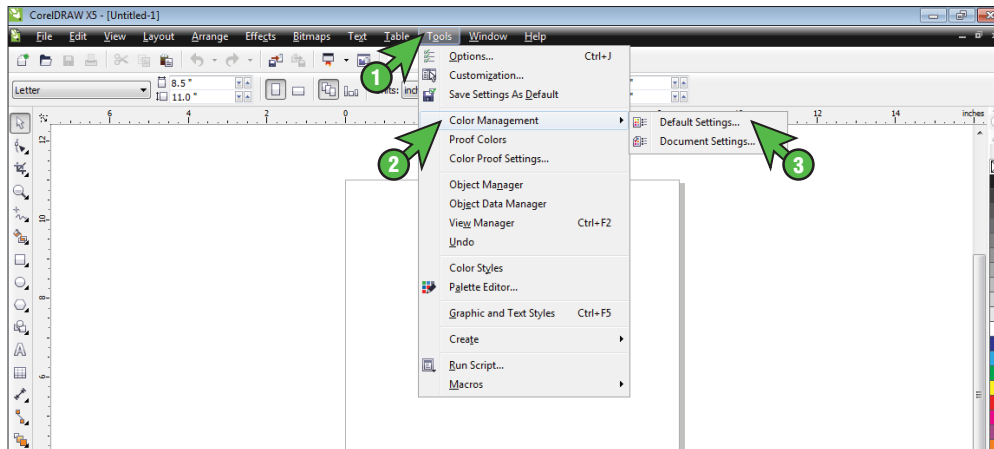

FIGURE 3
3.) In the Menu Bar, click **Tools > Color Management > Default Settings** (see FIGURE 3).